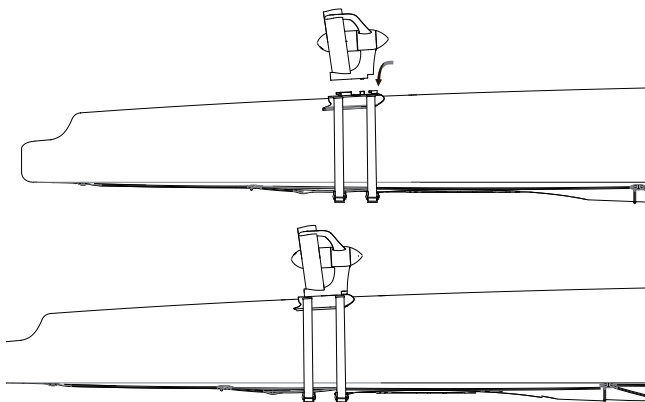

Figure 3-7
- ⑤ Attach the motor to the universal adapter as shown in Figure 3-7.